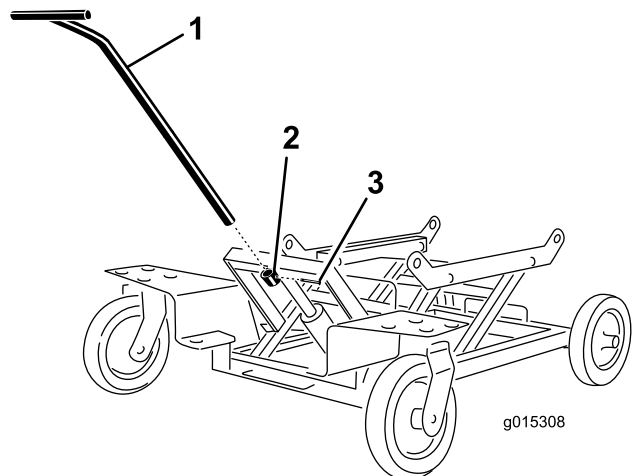

Figure 1
1. Install the handle into the option caddy and secure it with the pin (Figure 1).